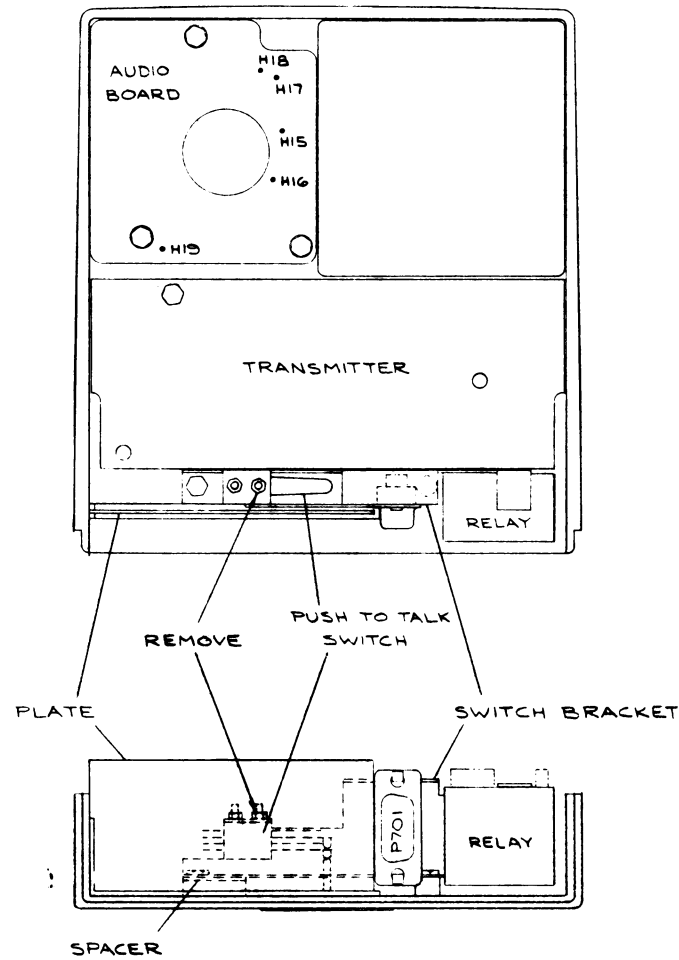

FIG. 1
2. REMOVE AND DISCARD PLATE (FIG. 1).
3. REMOVE SCREWS AND WASHERS FROM AUDIO BOARD (FIG. 1).
4. REMOVE SCREW FROM TRANSMITTER (FIG. 1).
5. REMOVE SCREWS FROM SWITCH BRACKET (FIG. 1).
6. REMOVE AND DISCARD SPACER FROM UNDER SWITCH BRACKET (FIG. 1).